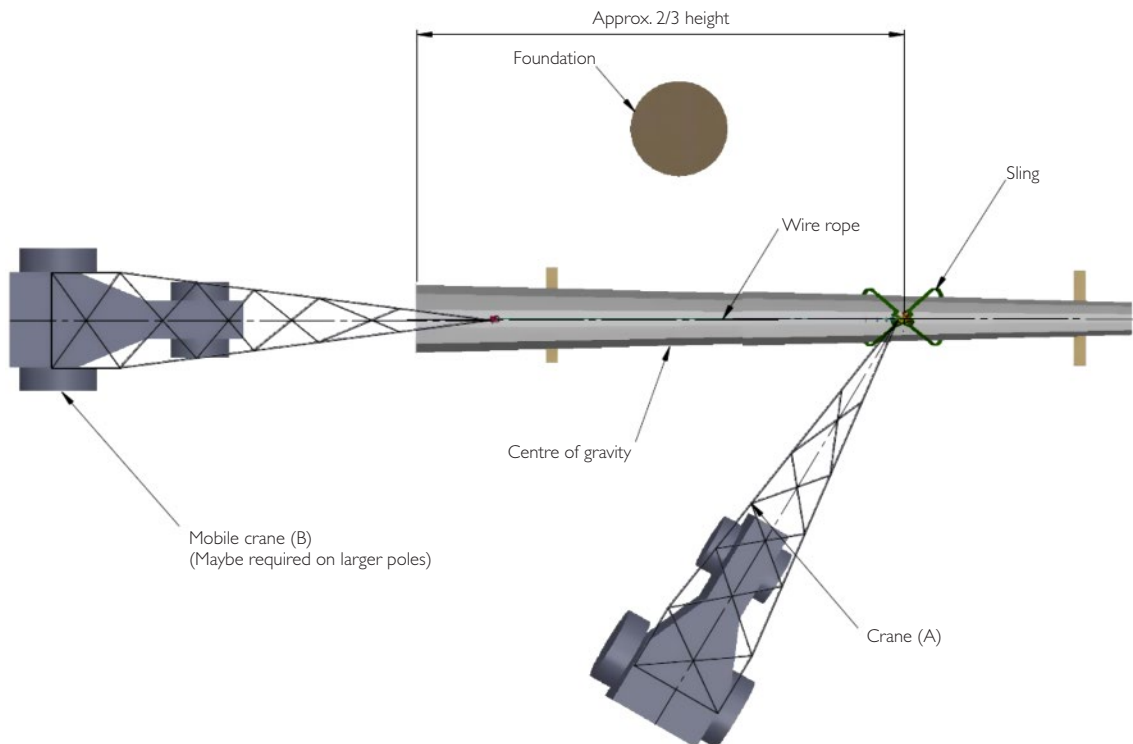
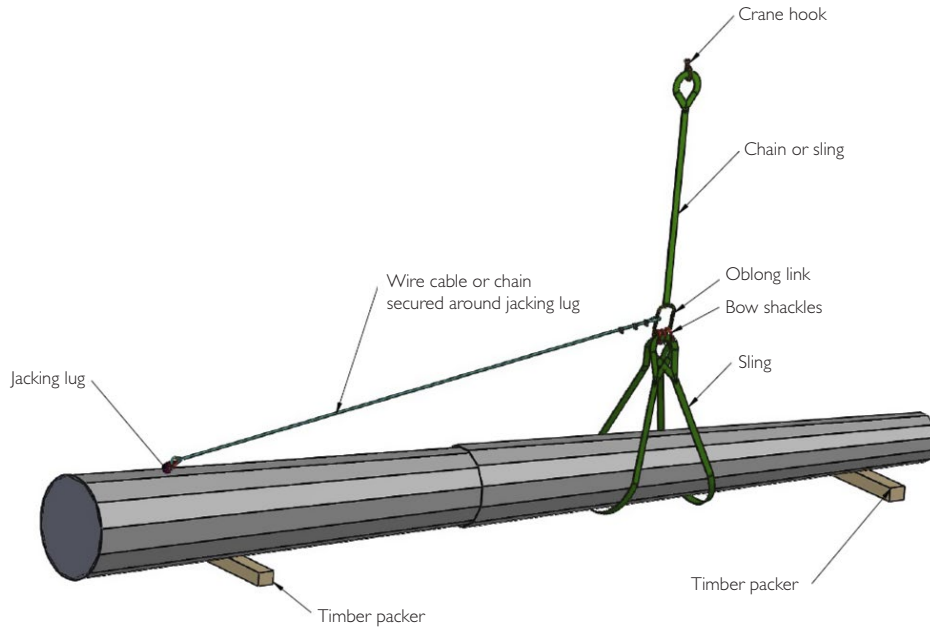

Figure 5.
Figure 6.
- 3.16** Centre the lifting crane (A) as shown in figure 5. Attach a sling formed into a cradle arrangement (refer figure 5) at approximately two thirds of the pole height from the base. Attach shackles to the lifting sling and fix them to the link ring. Attach a lifting sling around the link ring and to the hook of the crane. Attach a wire rope, chain or hand winch between the base section winching lugs and link ring. Use appropriate shackles as required. The wire rope or chain should be made relatively taut prior to commencing to lift the assembled pole (refer figure 6). The purpose of the above arrangement is to ensure that the wire rope is taut as the pole is lifted, and to stop the cradle sling from slipping up the column while also transferring the lifting force back to the pole base. All lifting tackle must be checked for its capacity and adequacy for the mass of pole being lifted.
- 3.17** Figure 6 shows the sling around the pole as not choked and the method described ensures that the safety wire rope or chain will be taut and will prevent any pole sections separating in the unlikely event that a pole section joint has not been correctly assembled. A correctly assembled section will not separate on lifting.
- 3.19** For some larger poles it may be necessary to use a small mobile crane (B) to "tail in" the base end of the column as the main crane (A) is lifting. This will avoid the base dragging on the ground and maintain control of the base until the pole is held vertical by the lifting crane (refer figure 5).